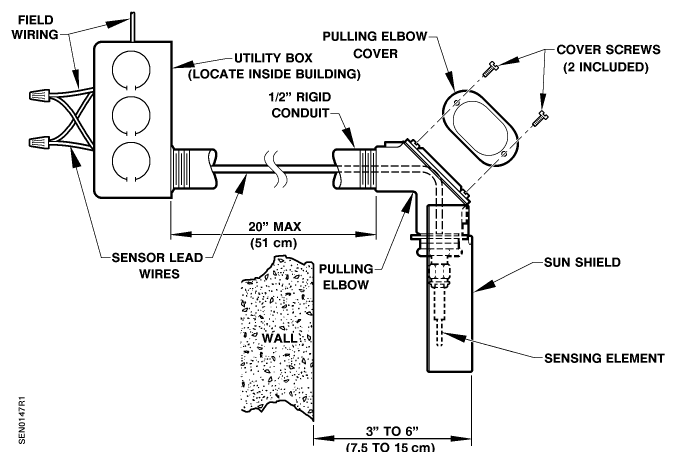

Figure 1. Outside Air Sensor, Option A Installation.
2. Feed the sensor leads through the rigid conduit to the utility box located on the inside of the building. Thread the sensor onto the rigid conduit as shown in Figure 1.
4. Connect the sensor leads to the field wiring inside the utility box. See Figure 1.